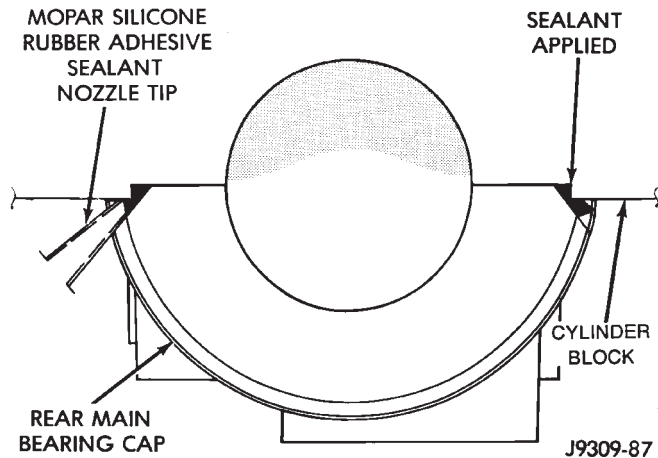

Fig. 42 Apply Sealant to Bearing Cap to Block Joint
(8) To align the bearing cap, use cap slot, alignment dowel and cap bolts. DO NOT remove excess material after assembly. DO NOT strike rear cap more than 2 times for proper engagement.
(9) Clean and oil all cap bolts. Install all main bearing caps. Install all cap bolts and alternately tighten to 115 N·m (85 ft. lbs.) torque.
(10) Install oil pump.
(11) Install the timing chain cover.
(12) Install the vibration damper.
(13) Apply Mopar® Silicone Rubber Adhesive Sealant, or equivalent, at bearing cap to block joint to provide cap to block and oil pan sealing (Fig. 42). Apply enough sealant until a small amount is squeezed out. Withdraw nozzle and wipe excess sealant off the oil pan seal groove.
(14) Install new front crankshaft oil seal.
(15) Immediately install the oil pan.